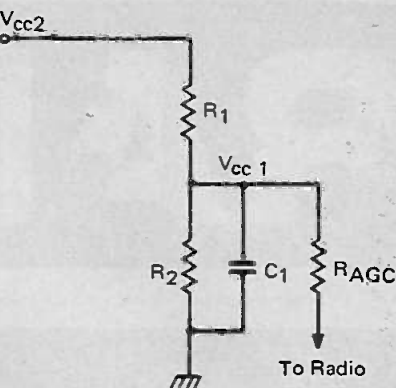

Fig. 4. If the radio supply is derived from a high potential source, eg 6/9 volt battery, a potential divider must be used to obtain correct AGC action.
*Fig. 4. The strain chamber. The top insulated cover encloses the wire strainmeter, the lower cover the quartz tube strainmeter and the pipe near the floor encloses the laser beam of the interferometer.*
There are three types of tidal strainmeters. The first, and oldest, style uses a long fused-quartz tube as an invariant length standard. A ten-metre length is hung along the wall on flexible pivots. One end is fixed to the wall, the other hangs free. At the free end is a transducer that monitors the gap between the end and a wall bracket. Strain appears as gap variations. The set up is shown schematically in Figure 3(a) and is the middle instrument seen in Figure 4.
The second type of strain instrument to be adopted widely was the laser interferometer. A stable wavelength laser radiates a beam through a beam splitter, (as shown in Figure 3b) that provides two coherent beams. One beam travels to the far end of the wall and is returned by a corner-cube reflector. The other beam is returned as a reference-phase signal and it interferes with the other to form fringes. Changes in length between the beam splitter and the corner cube show up as movements in the fringes. Electronic methods monitor this movement by counting fringes or by keeping the fringe stationary with a servo in which case the servo position is a measure of movement. As the wavelength of the light is varied by air pressure, humidity and temperature, the interferometer is operated in a vacuum using pipes to enclose the beams (see Figure 4). There are about six units operating in the Northern Hemisphere but as yet, none in our half. They range in length from 40 to 1000 metres and are the most expensive strainmeter to build.
and the Continent. Three units of another improved design are operating in New Zealand. Our unit is at the top in Figure 4.